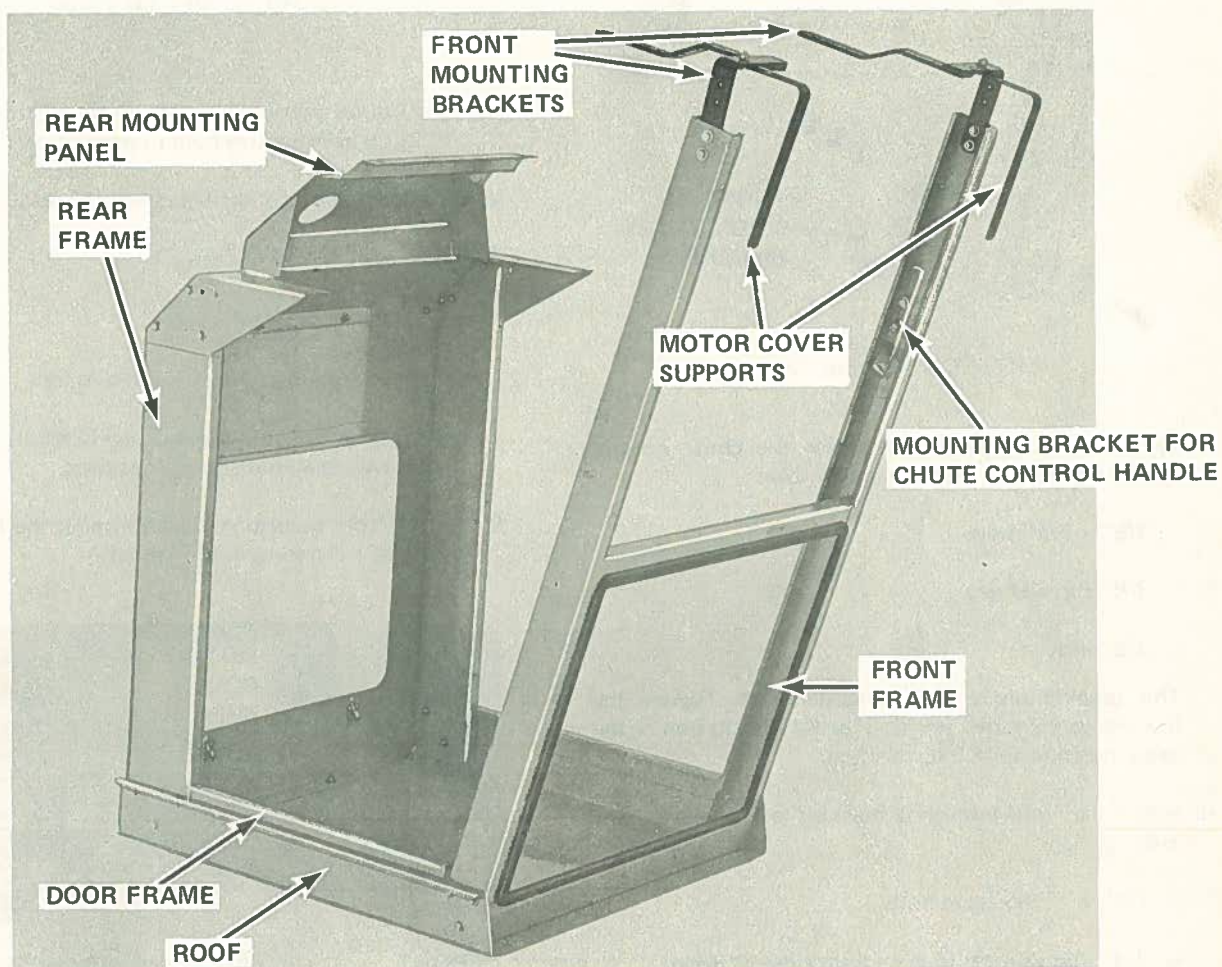

FIGURE 3 K2 Cab
2. Fit the door frame between the front frame member, rear frame member and roof as shown in Figure 3.
1. Fasten the motor cover supports to the front mounting brackets. See Figure 3. Use: